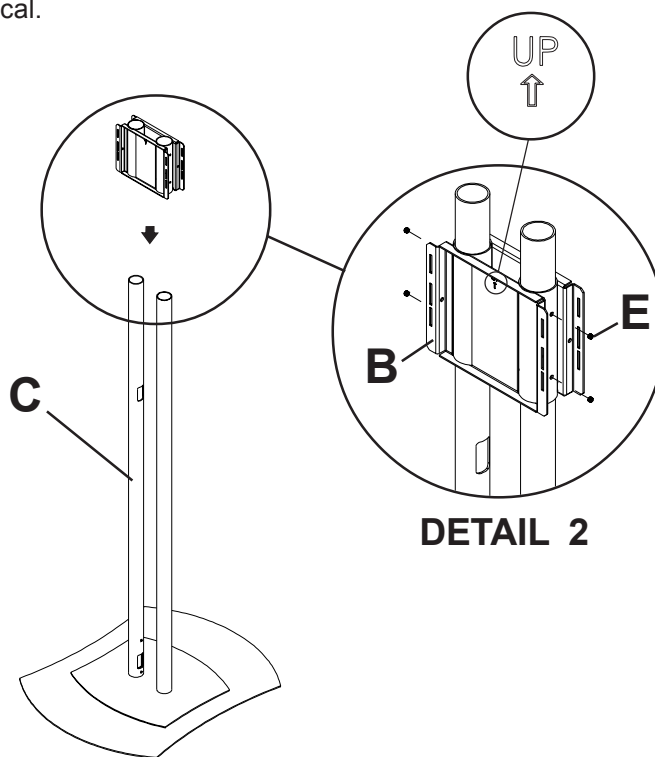

fig 3
- 3** Slide carriage (**B**) onto main tubes (**C**). Slide carriage to desired height and secure using four set screws (**E**) as shown in figure 3 and detail 2. Tighten screws using 4 mm allen wrench (**O**).